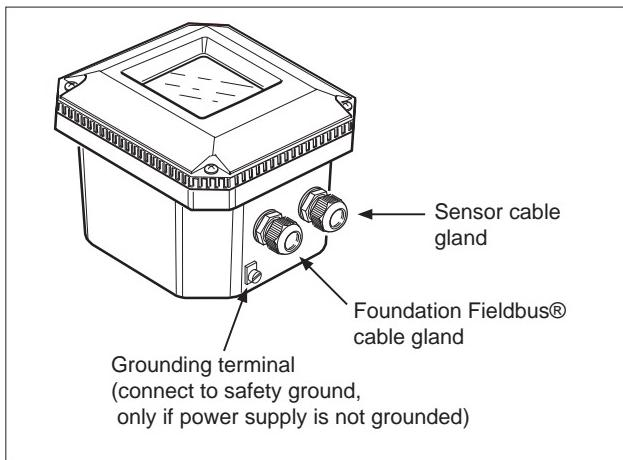

Figure 3.2 Glands to be used for cabling
The Foundation Fieldbus® connections and the sensor connections should be made in accordance with figure 3.2 and 3.3. The terminals are of a plug in style for ease of mounting.
The EXA 202 FF is provided with two cable glands. The first is used for the electrode wiring as the other is used for the power/foundation® Fieldbus wiring shown in figure 3.2.
4. Connect the sensor input, using the gland on the right (see figure 3.2). Switch on the power.